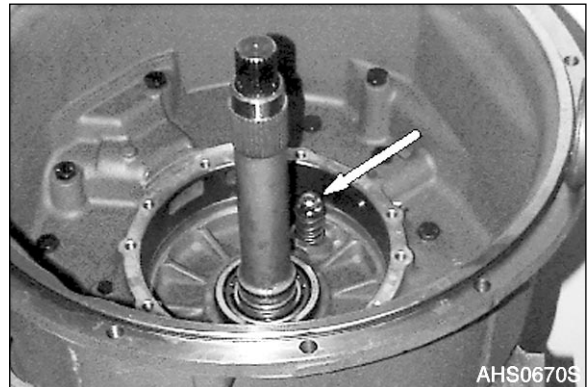

Figure 87
4. Remove converter safety valve (ball and spring, see Figure 87).